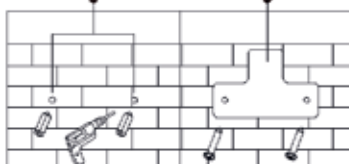
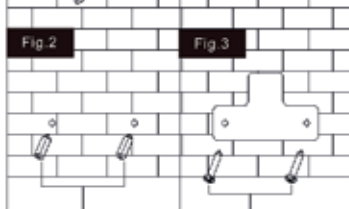

Fig.2
Fig.3
2. Drill holes ($\varnothing 6 \times 32 \text{ mm}$) into the wall on those 4 marked position, put expansion bolt into the mounting hole and then fix the 2 mounting brackets with screws and Phillips screw driver (Fig.2 and Fig.3).